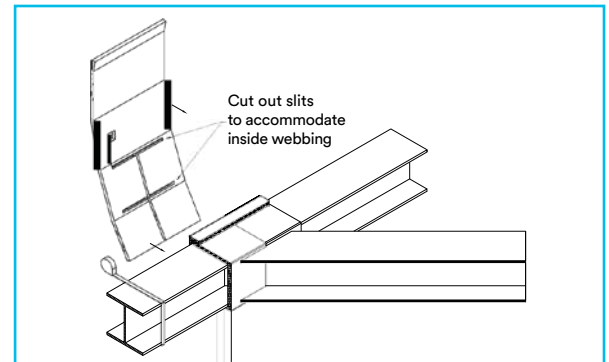

Figure 1
- 1 Start with the continuous run of beam (horizontal beam). Measure beam perimeter to determine length of the cut. Add additional length to accommodate for overlap and corner bending. Cut E-Mat and place it on the horizontal beam. Align the E-Mat flush with the top flange of the horizontal beam, and mark the outline of the intersecting beams' top and bottom flange and web. Cut and remove section of E-Mat between mark-ups. Apply E-Mat to the horizontal beam (*Figure 1*), maneuvering the cut-outs around the intersecting beam.